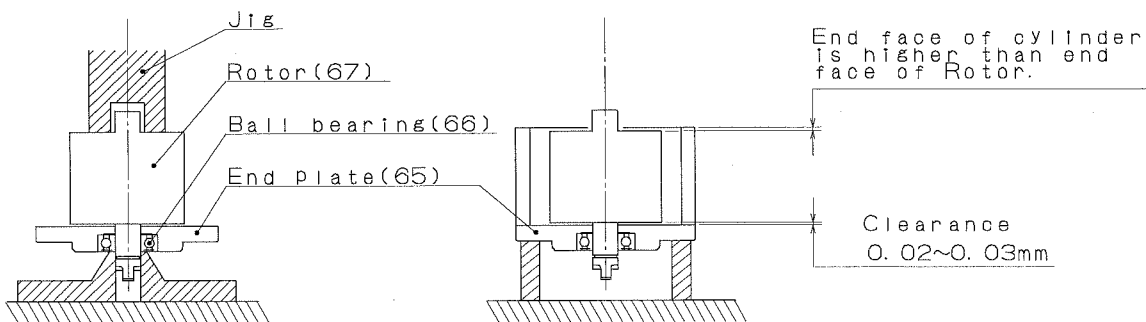

Fig.22
- ② Using the inner ring of Ball bearing(66) in End plate(65) for support, press Rotor(67) into Ball bearing using a jig and hand press.
Adjust the clearance between End plate(65) and Rotor(67) to 0.02~0.03 mm with End plate facing downwards while subjected to the mass of Rotor. (See Fig. 22)
- ⑤ Install Cylinder(69), making certain the end face of Rotor(67) does not protrude from the end face of Cylinder(69) (See Fig. 22).
- ⑥ Install Vane(70) into each vane slot on Rotor(67), slightly lubricating the vane portion.